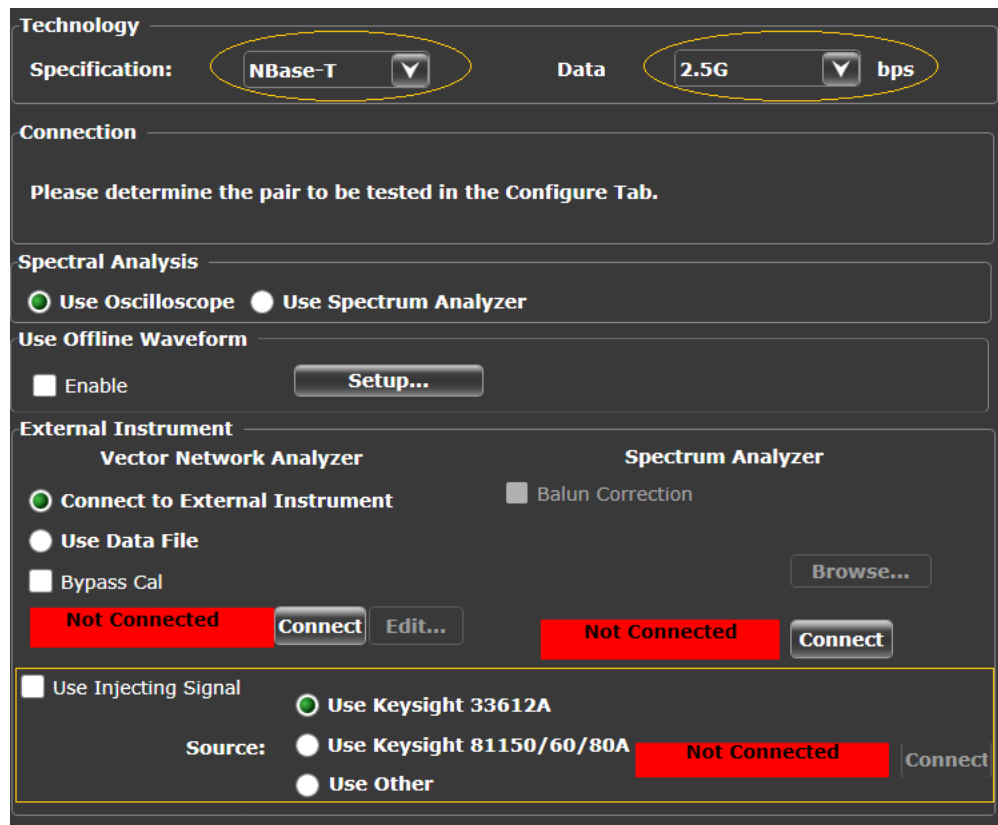

Figure 30 Set Up tab settings for Transmitter Nonlinear Distortion tests using Spectrum Analyzer
- 14 Select the **Use Injecting Signal** check box, as shown in Figure 30, so that the Test Application is able to connect to the waveform generator to run the Transmitter Nonlinear Distortion tests.